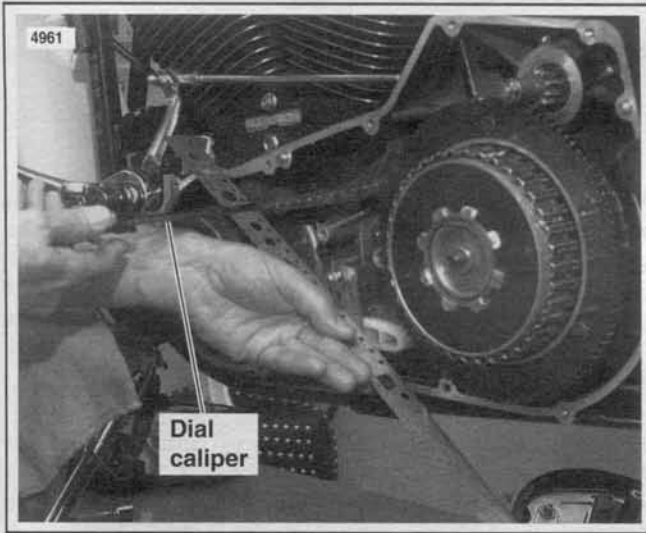

Figure 6-8. Checking Chain Alignment
- See Figure 6-8. Place a straightedge across the primary chain tensioner. With a dial caliper, measure the distance from the straightedge to the chain link sideplates. Measure as close to the engine compensating sprocket as possible. Record this measurement then repeat the measurement at the clutch sprocket.